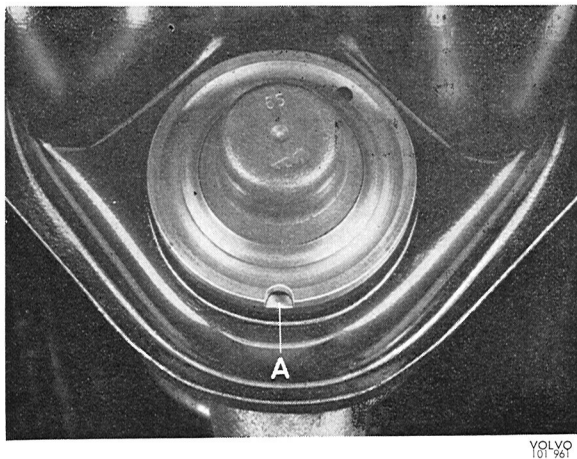
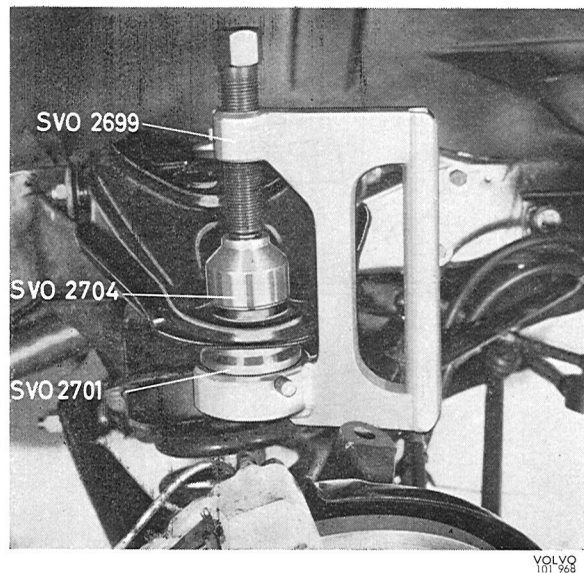

Fig. 6-24. Location of upper ball joint
Fig. 6-25. Fitting upper ball joint
1. Before installing the ball joint, check that the rubber cover is filled with grease. Bend the pin end over the slot, see Fig. 6-24. Check that the grease forces its way out. If necessary top up with multipurpose grease.
2. Press the ball joint into the control arm with press tool 2699, sleeve 2701 and drift 2704, see Fig. 6-25. Make sure that the ball joint recess comes in line with the longitudinal shaft of the control arm (Within $\pm 8^\circ$) either externally or internally, see Fig. 6-24, as the pin has maxi-